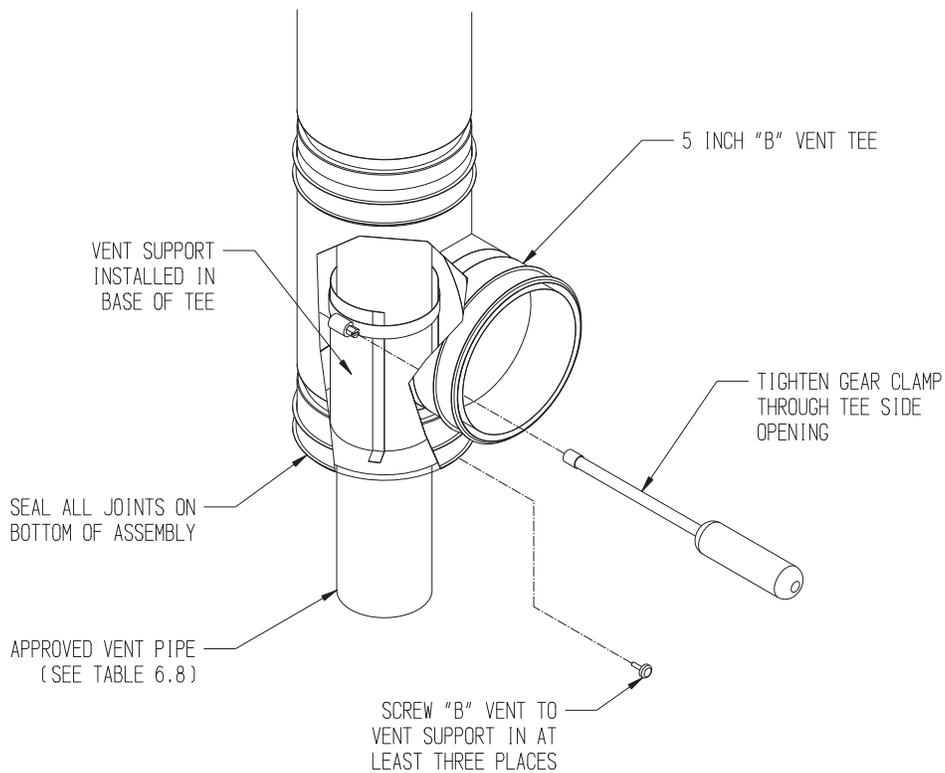

FIGURE 6.20: INSTALLATION OF VENT SUPPORT PROVIDED IN CROWN #500005 VERT. COAXIAL VENT KIT
- d) Slip the Crown vent support over the vent pipe protruding from the bottom of the “B” vent. Orient the vent support so that it will be possible to tighten the gear clamp by reaching through the side opening in the “B” vent Tee (Figure 6.20). Attach the vent support to the “B” vent Tee with at least three sheet metal screws. Tighten the gear clamp. Seal all joints in between the vent support, the vent pipe, and the “B” vent.